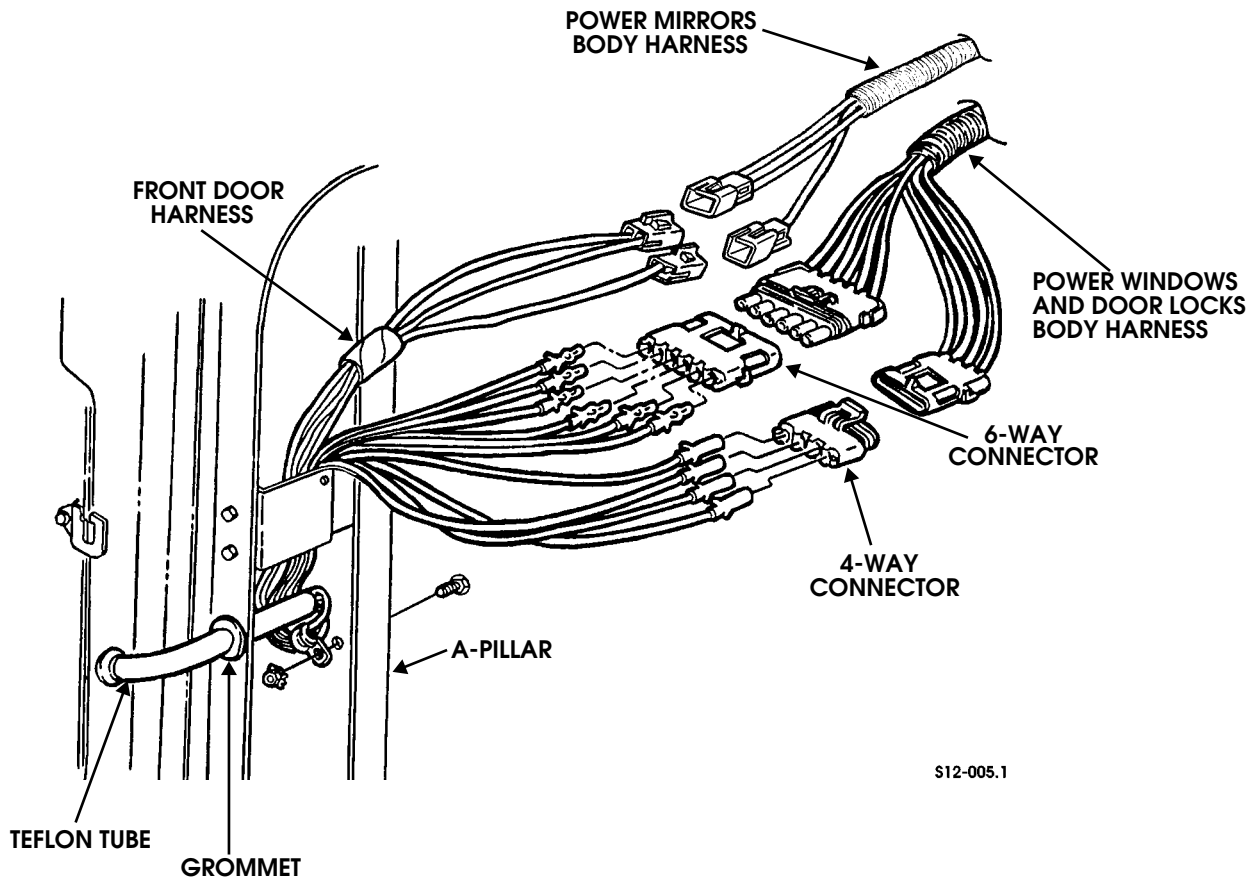

Figure 12-123: Power Windows and Door Locks Harness
4. Disconnect 4-way and 6-way harness connectors from power windows and door locks body harness connectors (Figure 12-123).